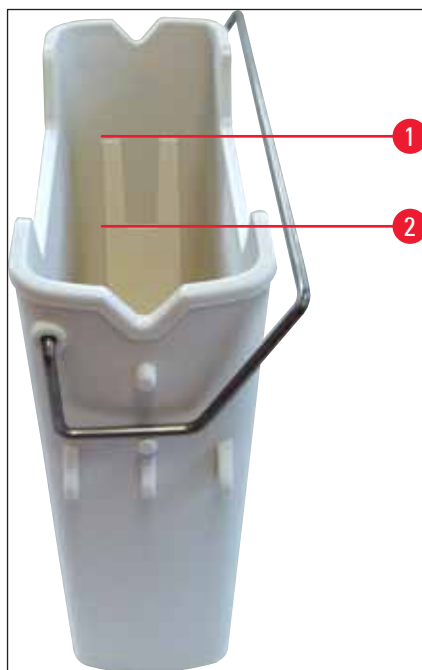

Fig. 67
4. Check that the fill level is sufficient (→ Fig. 67) and the reagent is free of dirt. In the event of contamination, the solvent is to be replaced (→ P. 38 – 4.6.3 Prepare the reagent vessel, fill it and insert it into the load drawer) and the reagent vessel is to be cleaned before filling it again.